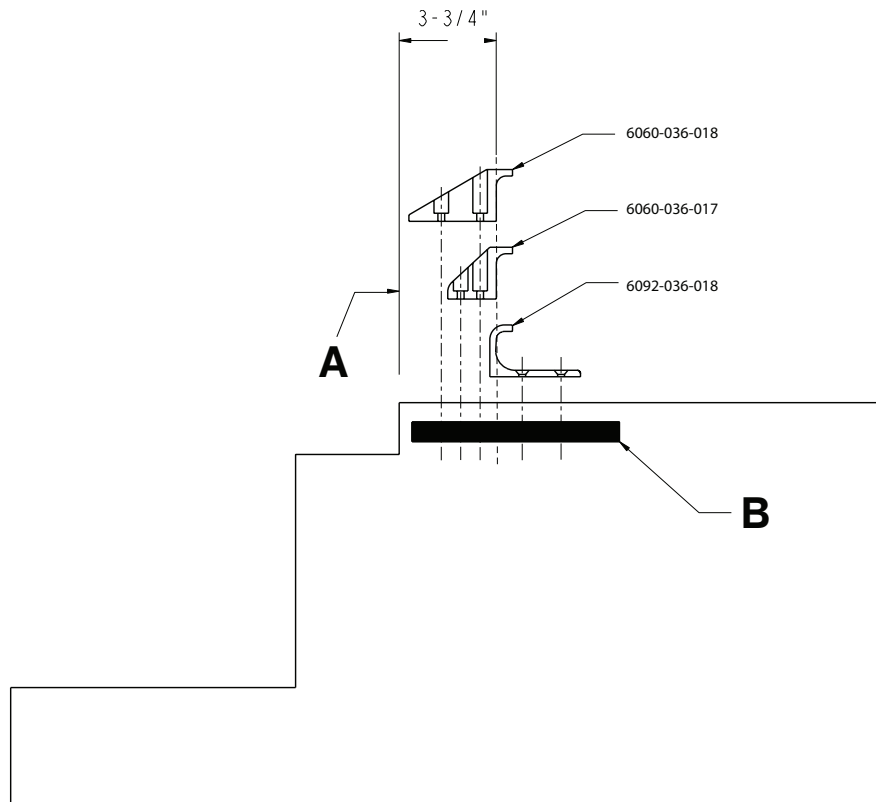

Figure 5 – Vehicle safety hook placement
2. Position the vehicle safety hook at least 3-3/4 in. from the leading edge of the door sill (A) (Figure 5). The recommended distance from the face of the safety hook is no less than 3-3/4 in.